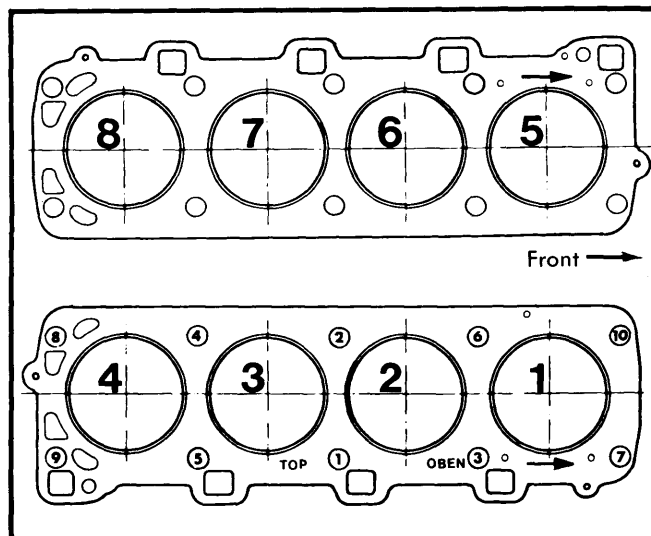

Fig. 1 Cylinder Head Tightening Sequence (Loosen in Reverse Order)
2) Left and right cylinder head gaskets are different. Arrow must face forward and word "TOP/OBEN" must face up. Tighten head in 3 steps according to the sequence shown in Fig. 1. Tighten to final torque and allow to stand at least 30 minutes. Loosen nuts by $\frac{1}{4}$ turn, then tighten to final torque of 61 ft. lbs. (8.5 mkg).